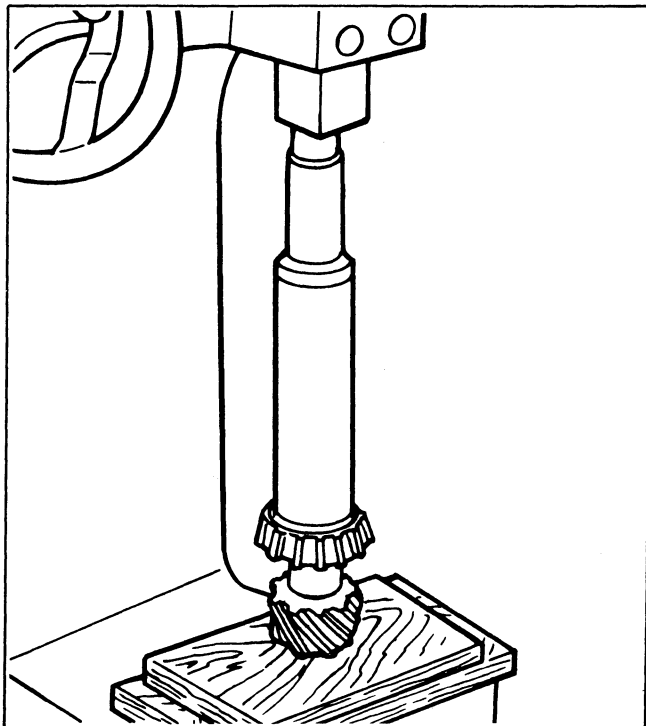

Figure 2-16. Installing Rear Bearing
12. Install drive pinion shaft rear bearing cone (24) and spacer (25) with press tool similar to one shown in Figure 2-16.